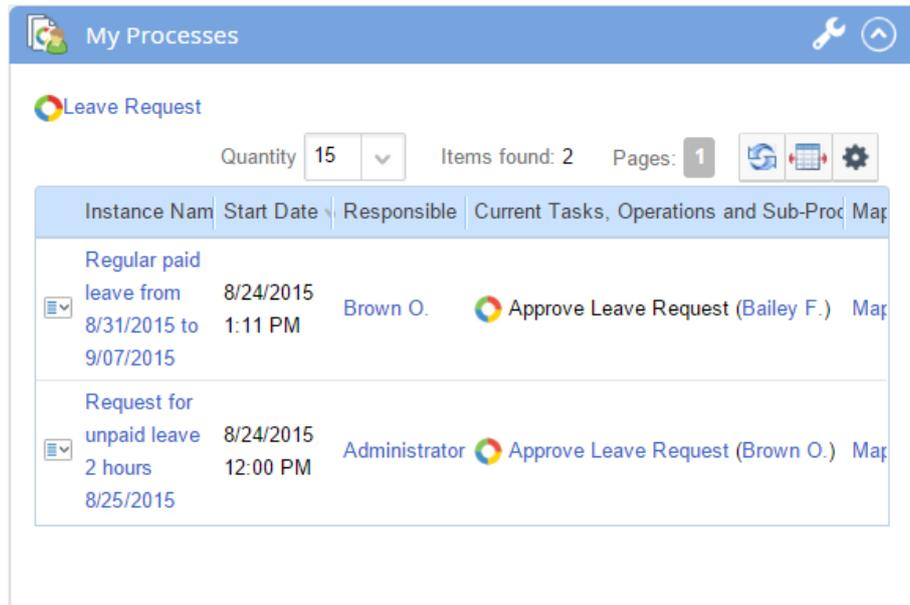

Fig. 102. The My Processes portlet
**My Processes** portlet has similar functions. You can place this portlet on the main page (Fig. 102).
- in the **My Processes** portlet: the **Map** link for each process instance (Fig. 102).